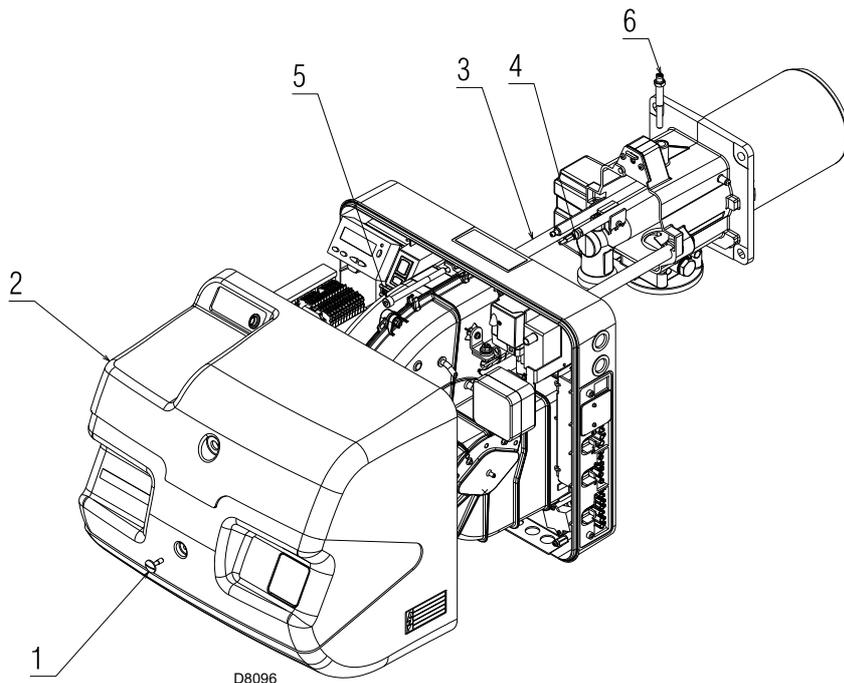

Fig. 40
- Loosen the screws 1)(Fig. 40)and remove the cover 2).
- Remove the screw 5)(Fig. 40) and pull back the burner on the guides 3) by about 100 mm.
- Tighten the screws 5)(Fig. 40) and carefully pull the probe and electrode cables outwards until they are slightly taut.